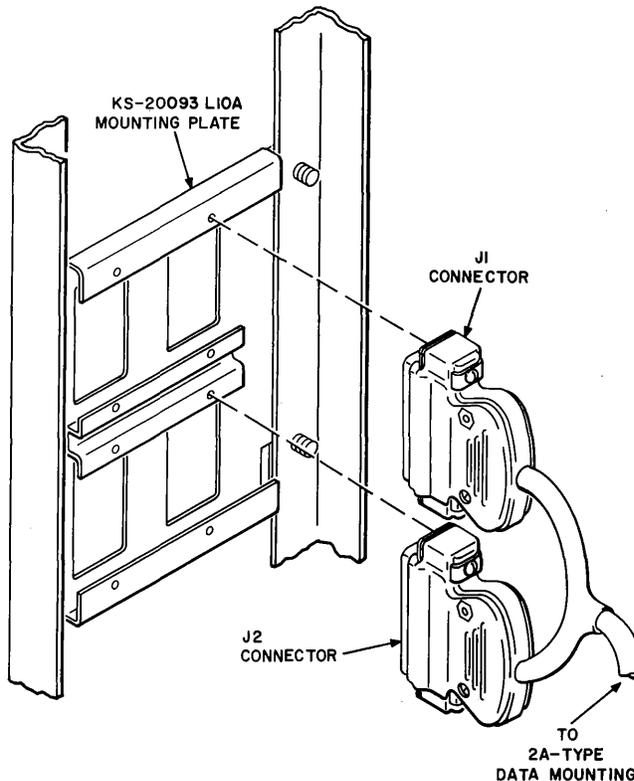

Fig. 12—Details for Mounting Interface Connectors in the Customer Interface Section of KS-20093-L1 Cabinet—Rear View
- 3.22** Connectors J1 and J2 for the data mountings installed on the rear of the cabinet are mounted on the right side of the mounting plate, as viewed from the rear (Fig. 12). The connectors for the front-mounted data mountings are mounted on the left side with connector J1 mounted below
J2. Installation should be in accordance with Fig. 12.
3.23 When the 103E-type Data Station is fully equipped (40 data sets and 40 data auxiliary sets), the **first** cabinet requires connectors J1 and J2 to be mounted on the right side of the mounting plate as viewed from the rear (Fig. 12). The **second** cabinet also mounts on the right side with the exception that J1 mounts below J2.